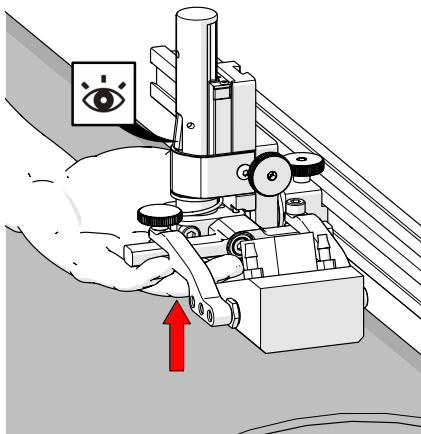
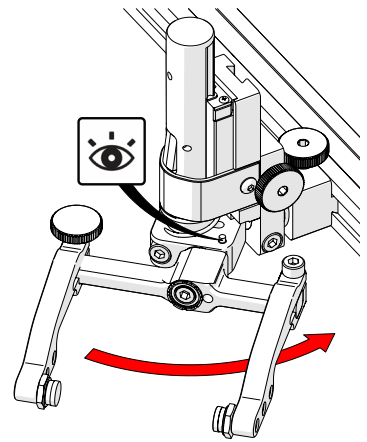

Fig. 47 - Latch probe holder
Fig. 53 - Stop post locates 90°
1. Ensure the probe holder is in the latched upper position. Lift the probe holder until the latch is fully exposed and snaps out to lock (Fig. 47).
1. Ensure the probe holder is in latched, upper position (*Fig. 47*).
To return the transverse adjustment to neutral (90°). The probe holder must be in the latched, upper position (*Fig. 47*). Rotate the yoke until the stop post contacts the base of the probe holder (*Fig. 53*). Then tighten the transverse adjustment screw.
1. Ensure the probe holder is in latched, upper position (Fig. 47).